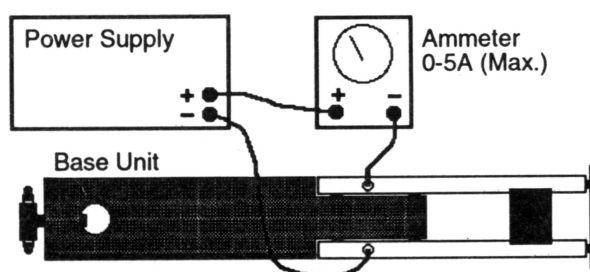

Figure 7: Connecting the Ammeter and Power Supply (Top View).
5. Connect the power supply and ammeter as shown in Figure 7.